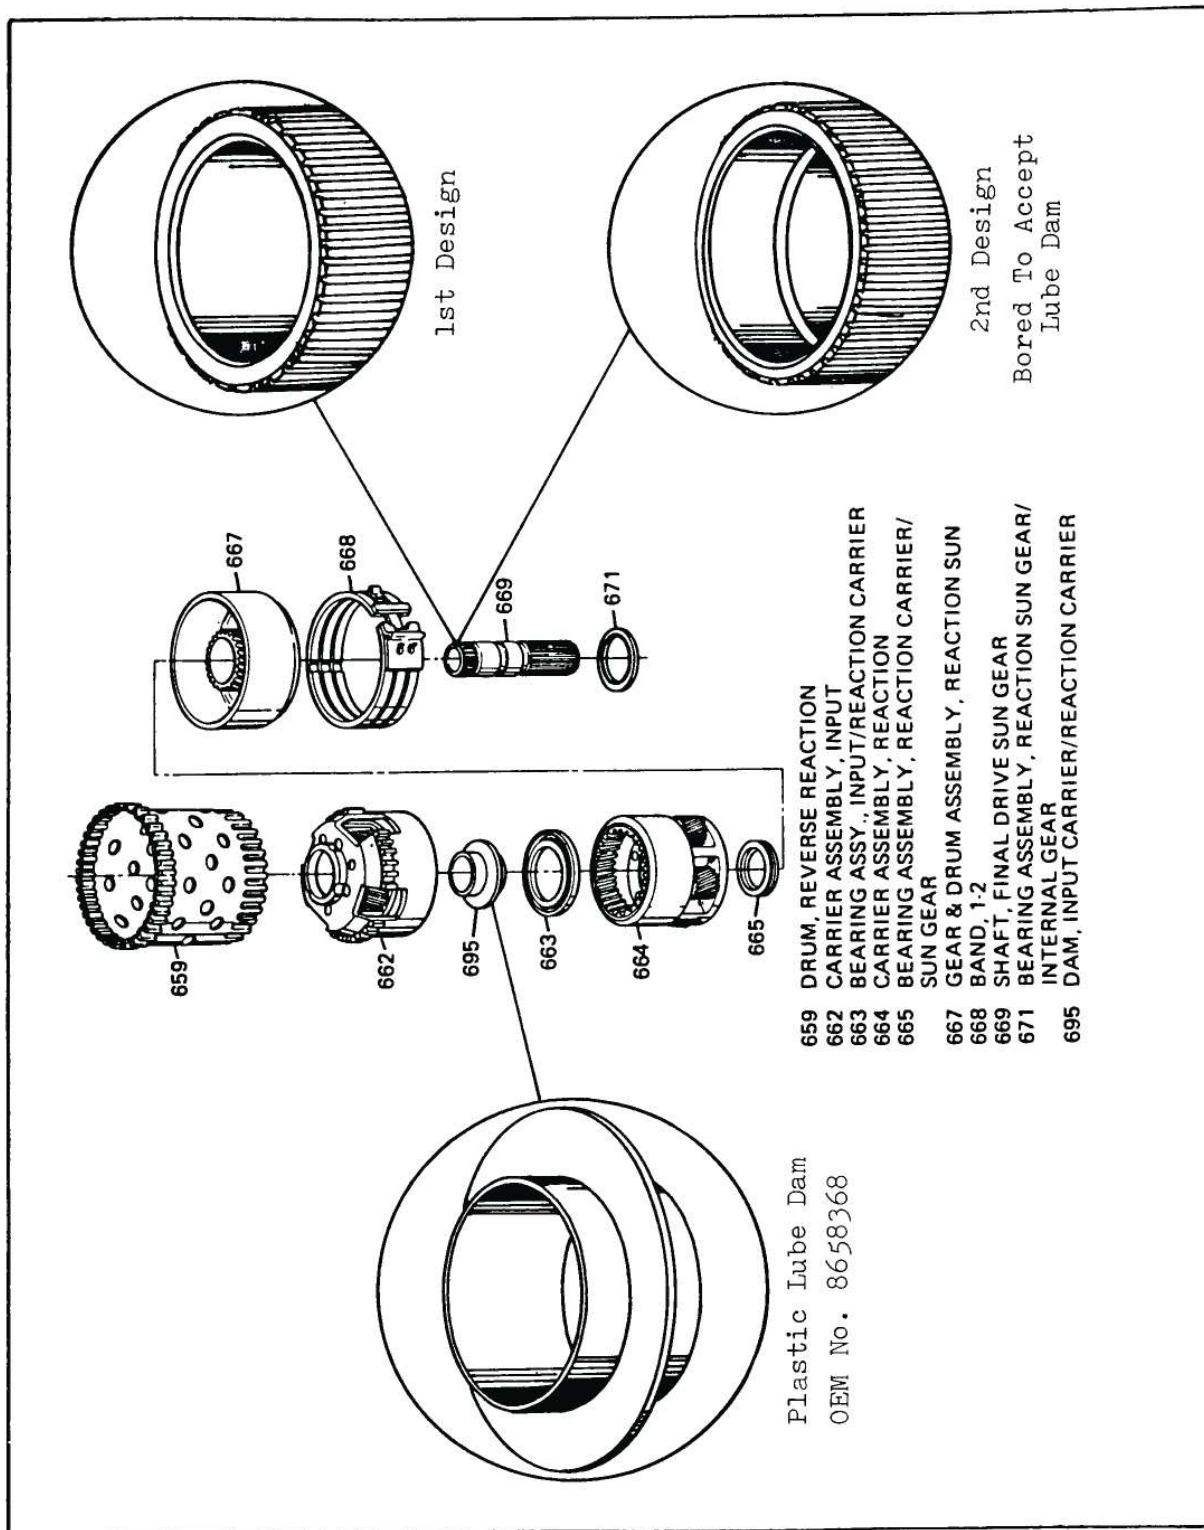

Figure 44
(See Figure 44).
- 1) Input Carrier(662) (Figure 44) - Bored larger on inside diameter to accept added lube dam.
- 3) Final Drive Sun Gear Shaft(669) (Figure 44) - Inside diameter bored larger on one end to accept added lube dam. (See Inset, Figure 44).
You can use input carrier, output shaft, or final drive sun gear shaft, in any configuration that you want to (Mix and Match), AS LONG AS THE INPUT CARRIER IS NOT BORED FOR THE LUBE DAM. If the input carrier is bored for the lube dam, you MUST use the lube dam. If you use the lube dam, you MUST use the 2nd design output shaft, and the 2nd design final drive sun gear shaft (See Figures 44 and 45).
- * 9) Final Drive Sun Gear Shaft(669) - Bored the inside diameter to accept lube dam between the carriers (See Figure 44).